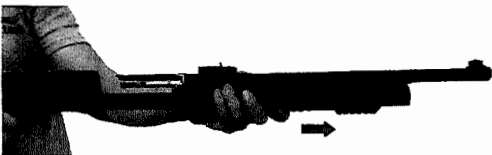

Fig. 29
7. Remove the forend and barrel from magazine tube by sliding forward. (Fig. 29)